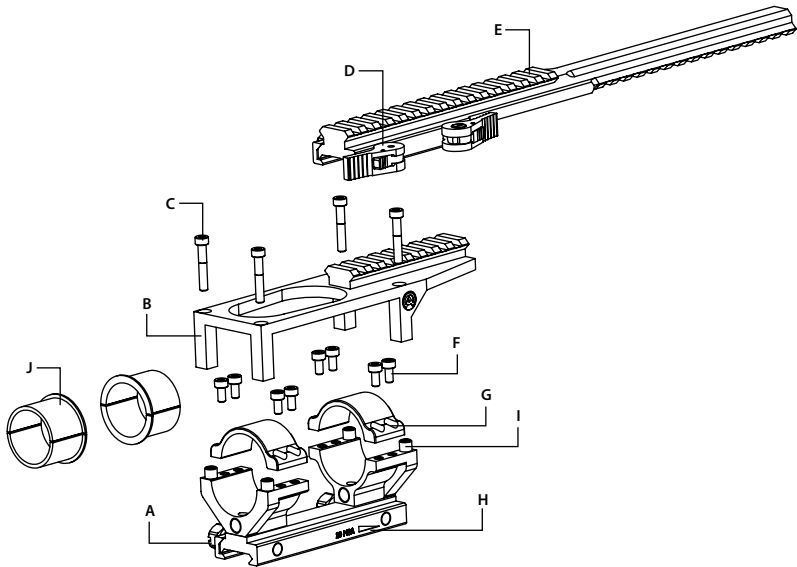

FIGURE 3-7. OPTIONAL FSRS SYSTEM. COMPONENT PARTS
The FSRS system is delivered ready-assembled. The components of the FSRS system are shown in Figure 3-7.
Dismantle the FSRS system as follows (see Figure 3-7):
1. Loosen the nuts (A, Figure 3-7). Install the mount (H) on the weapon's Picatinny/ Weaver rail. The two pins of the mount's clamping device should be secured in the transverse slots of the rail. Manually retighten the nuts (A).
1. Install the bridge (B, Figure 3-7) on the bushes (I, Figure 3-7). After applying a small amount of thread lock to the threads, install and tighten the screws (C, Figure 3-7) using a 3mm hex key.
2. Unlock the clamping devices (D, Figure 3-7). Install the extension mount (E, Figure 3-7) onto the Weaver rail of the bridge (B). Verify that the clamping device is secured to the extension mount. If necessary, adjust the clamping device as detailed in Part 3.1.3.